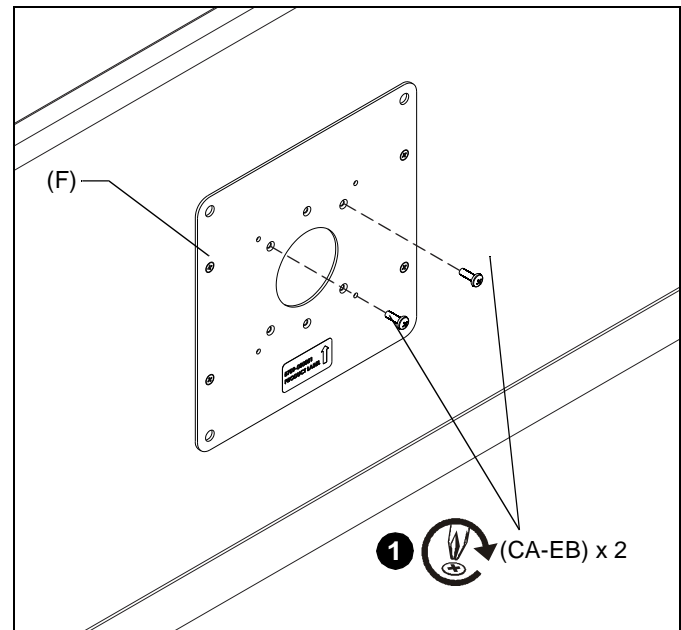

Figure 6
1. Select correct screws, spacers (if necessary) and washers (if required) from the FSB1U hardware kit (A-EB) and partially fasten two Phillips pan head upper mounting screws (CA-EB) into interface bracket (F). (See Figure 6)